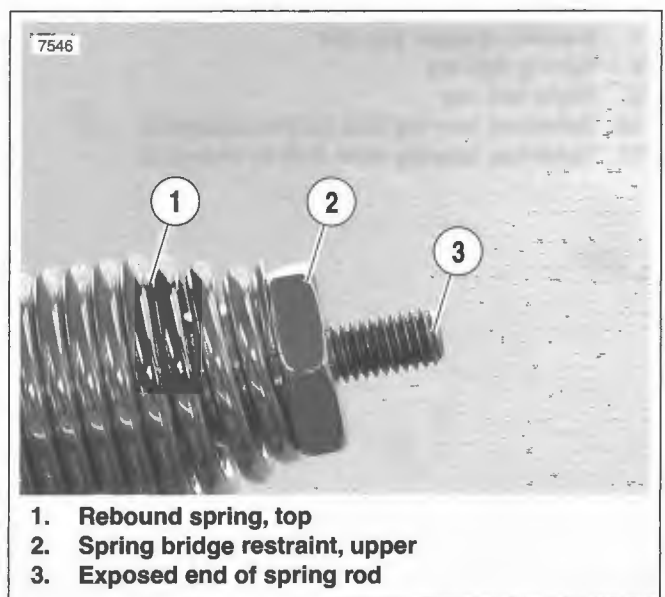

Figure 2-101. Checking Spring Rod
21. See Figure 2-101. Place upper spring restraints in position. Tighten spring restraints until the spring rods protrude 0.625-0.750 in. (16-19 mm) from the tops of the spring restraints.